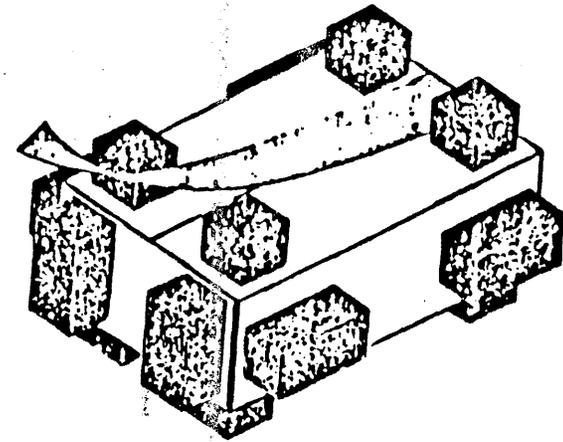

FIGURE 3
4. REMOVE TAPE FROM INNER BOX AND SPREAD OUT BOX (Figure 3).